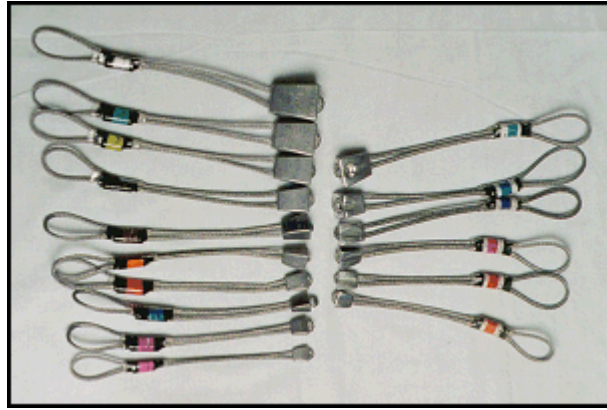

Figure 3-15. Chocks.
d. **Chocks.** "Chocks" is a generic term used to describe the various types of artificial protection other than bolts or pitons. Chocks are essentially a tapered metal wedge constructed in various sizes to fit different sized openings in the rock (Figure 3-15). The design of a chock will determine whether it fits into one of two categories—wedges or cams. A wedge holds by wedging into a constricting crack in the rock. A cam holds by slightly rotating in a crack, creating a camming action that lodges the chock in the crack or pocket. Some chocks are manufactured to perform either in the wedging mode or the camming mode. One of the chocks that falls into the category of both a wedge and cam is the hexagonal-shaped or "hex" chock. This type of chock is versatile and comes with either a cable loop or is tied with cord or webbing. All chocks come in different sizes to fit varying widths of cracks. Most chocks come with a wired loop that is stronger than cord and allows for easier placement. Bigger chocks can be threaded with cord or webbing if the user ties the chock himself. Care should be taken to place tubing in the chock before threading the cord. The cord used with chocks is designed to be stiffer and stronger than regular cord and is typically made of Kevlar. The advantage of using a chock rather than a piton is that a climber can carry many different sizes and use them repeatedly.